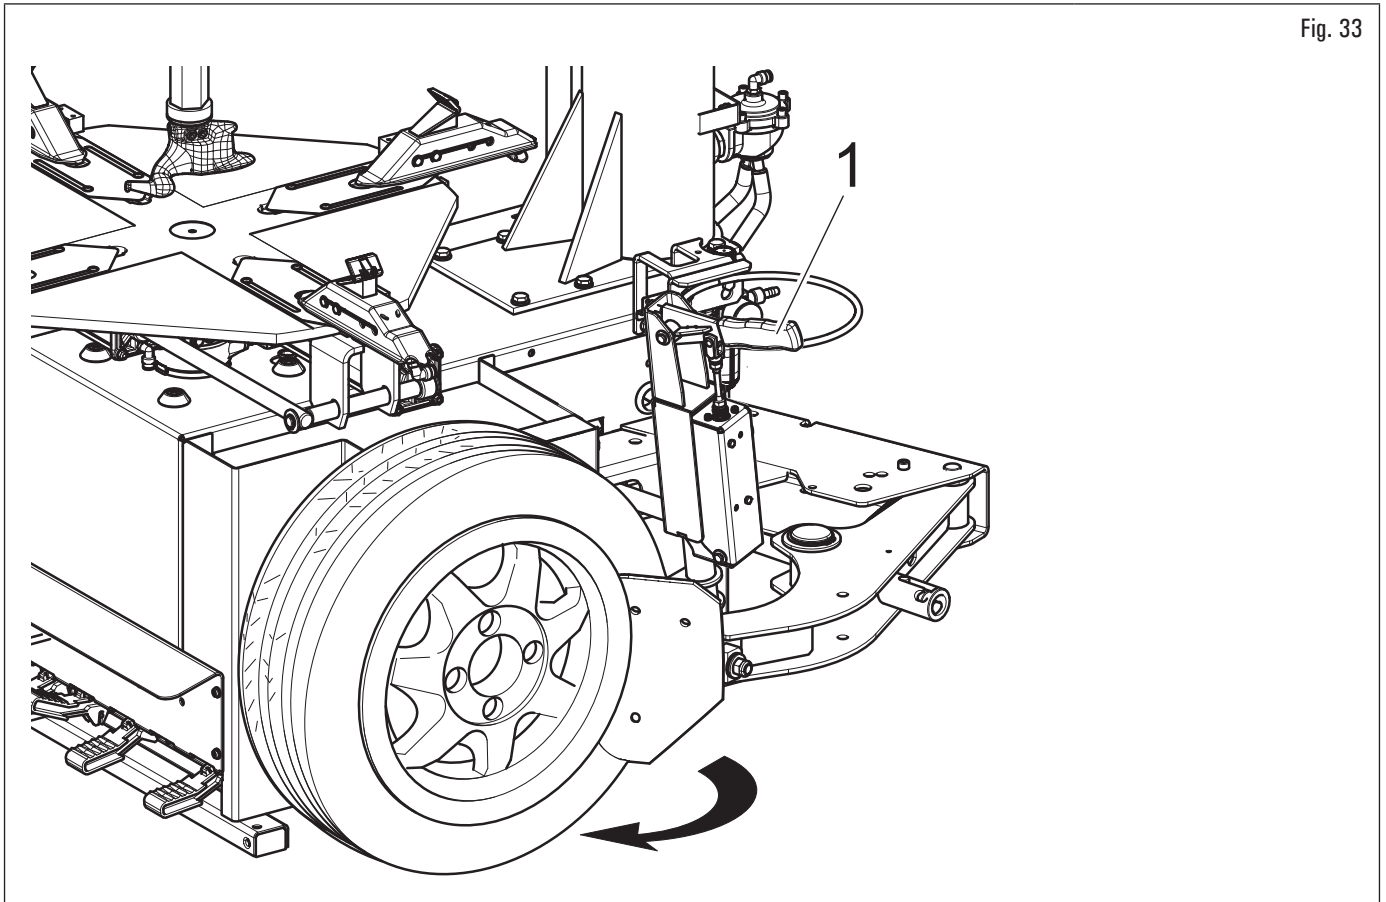

Fig. 33
3. move the bead breaker shovel close by lifting the handle upwards (Fig. 33 ref. 1) until the bead comes off. If the bead does not detach the first time, repeat the operation, on different points of the wheel, until it has come away completely.